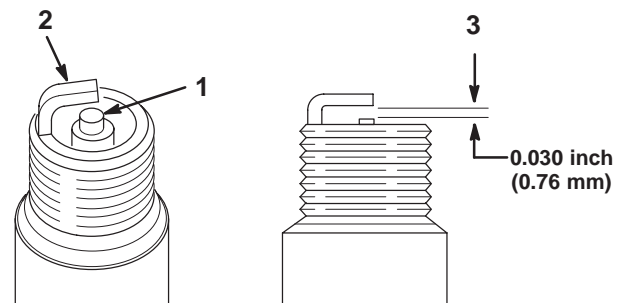

Figure 35
1. Look at the center of the spark plug(s) (Fig. 35). If you see light brown or gray on the insulator, the engine is operating properly. A black coating on the insulator usually means the air cleaner is dirty.
2. Check the gap between the center and side electrodes (Fig. 35). Bend the side electrode (Fig. 35) if the gap is not correct.